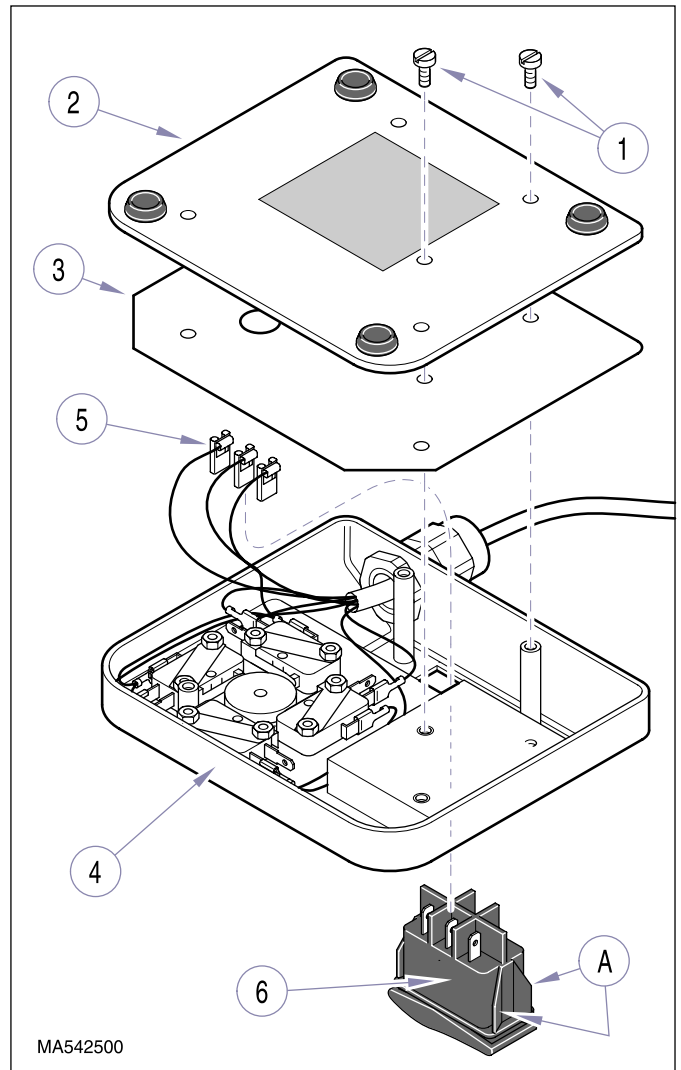

Figure 4-21. Auto Exit / Operate Switch Removal / Installation
- (1) Unplug chair power cord from wall outlet receptacle.
- (2) Remove five screws (1, Figure 4-21), base plate (2), and insulation (3) from footswitch housing (4).
- (3) Tag and disconnect three wires (5) from terminals of footswitch (6).